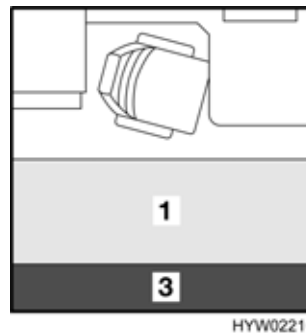

Fig. 100 After conversion
- Insert the back cushion (Fig. 100,3) between the divan cushion and the exterior wall.